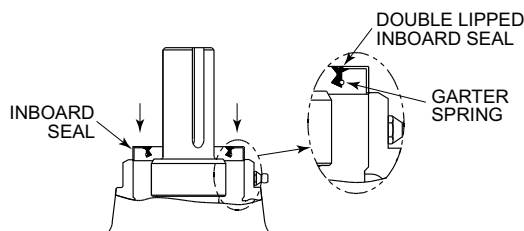

Figure 6.2.3.1 Orientation of Inboard Seal for Installation
3. Place the ring on the seal. Reference Figure 6.2.3.2.